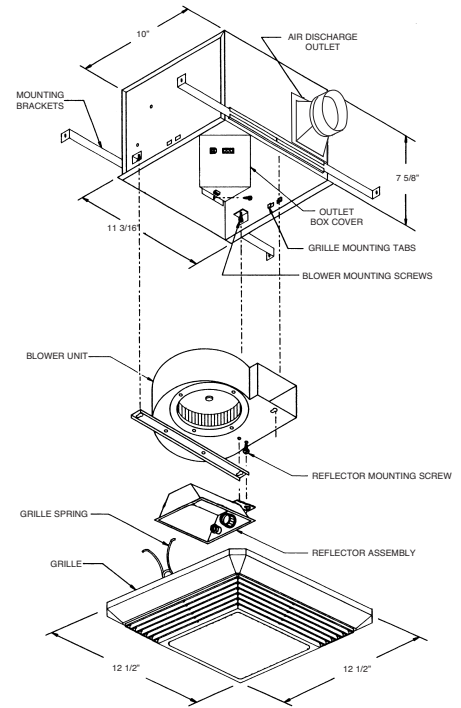

FIG. 1
1. Remove the grille assembly from the carton and set it aside until needed. Remove reflector assembly from blower unit by pulling plug from receptacle, loosen mounting screw and remove through keyhole slot. See Fig. 1.
2. Loosen three screws securing blower unit to housing and slide it toward outlet box. Carefully lift and tilt blower unit and remove from housing. Pull motor plug from receptacle. See Fig. 1.
7. Push blower motor plug into receptacle and carefully replace blower unit. Reverse procedure as noted. Tighten screws securely. See Fig. 1.
9. Squeeze spring on plastic grille and insert into tabs located in housing. See Fig. 1. Press grille firmly in place.